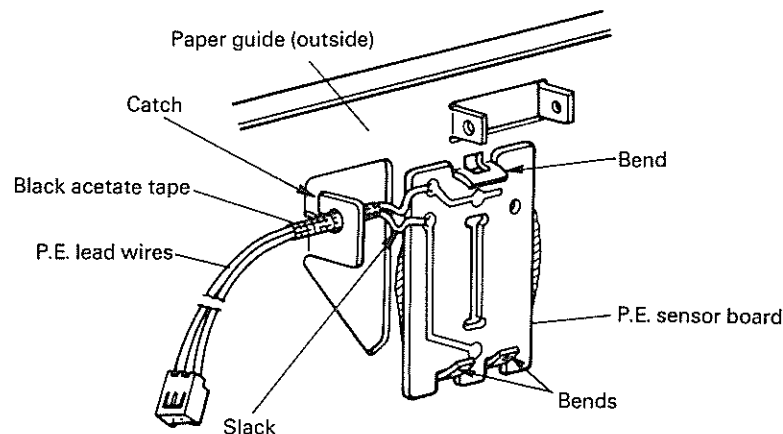

Fig. 4-20. Removal of Paper End Sensor Board
(2) Removal of Paper End Sensor Board (Fig. 4-20)